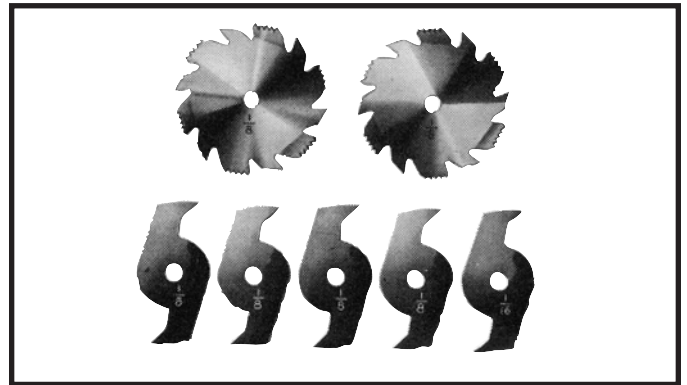
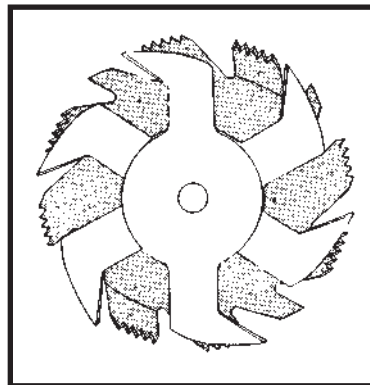
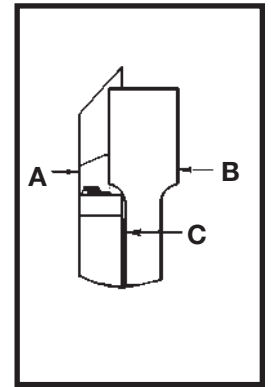

Fig. 69
Fig. 70
Fig. 71
1. Dadoing is cutting a rabbet or wide groove into the work. Most dado head sets are made up of two outside saws and four or five inside cutters, (Fig. 69). Various combinations of saws and cutters are used to cut grooves from 1/8" to 13/16" for use in shelving, making joints, tenoning, grooving, etc. The cutters are heavily swaged and must be arranged so that this heavy portion falls in the gullets of the outside saws, as shown in Fig. 70. The saw and cutter overlap is shown in Fig. 71, (A) being the outside saw, (B) an inside cutter, and (C) a paper washer or washers, used as needed to control the exact width of groove. A 1/4" groove is cut by using the two outside saws. The teeth of the saws should be positioned so that the raker on one saw is beside the cutting teeth on the other saw.